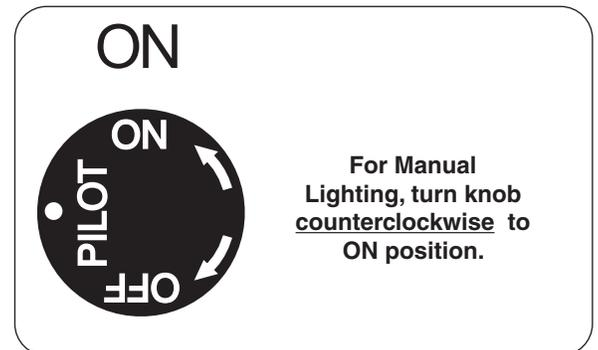

Fig. 39-3 Control knob detail (ON)
2. Turn the gas control knob counterclockwise to **ON** (Fig. 39-3) to ignite the burner. The valve will open and the burner will light.
**WARNING: If the burner fails to light within 5 seconds, turn the control knob clockwise to PILOT. Allow five (5) minutes for any gas in the unit to dissipate, then repeat step 2 above. IF YOU SMELL GAS, SEE STEP B AT BEGINNING OF LIGHTING INSTRUCTIONS.**